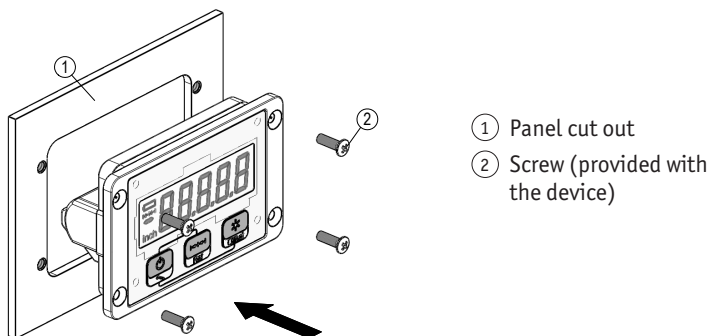

Fig. 1: Installation
4.2 Mounting the electronic display (Fig. 1):